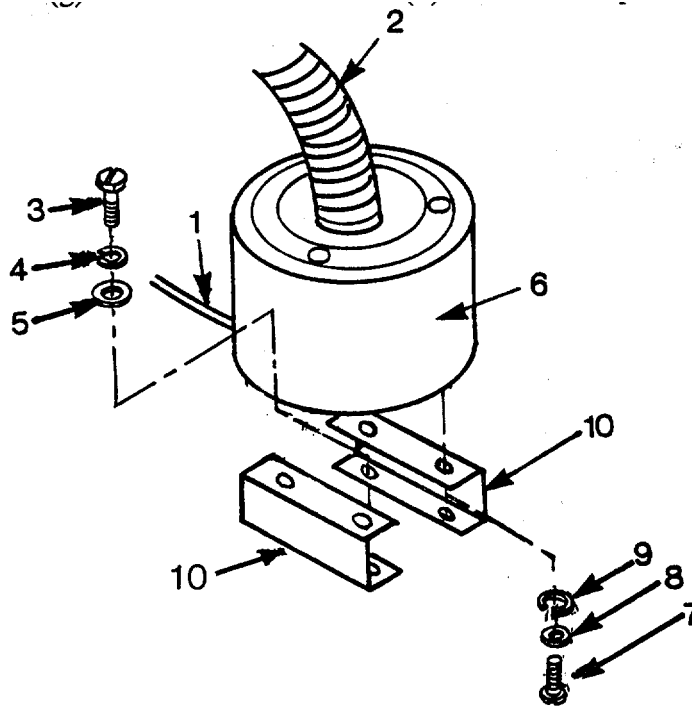

Figure 4-11. Vertical Camera Vacuum Pump Assembly
(2) Vertical Camera Vacuum Pump. (See Figure 4-11.)